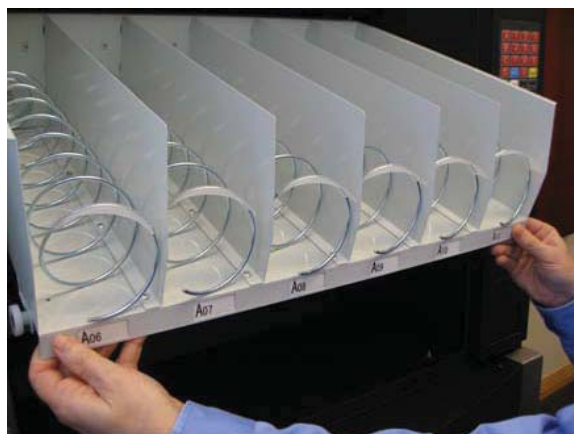

Figure 19 – Pull the tray towards you
- d. When fully extended the product tray will tilt downward for easy product loading (*Figure 19*).